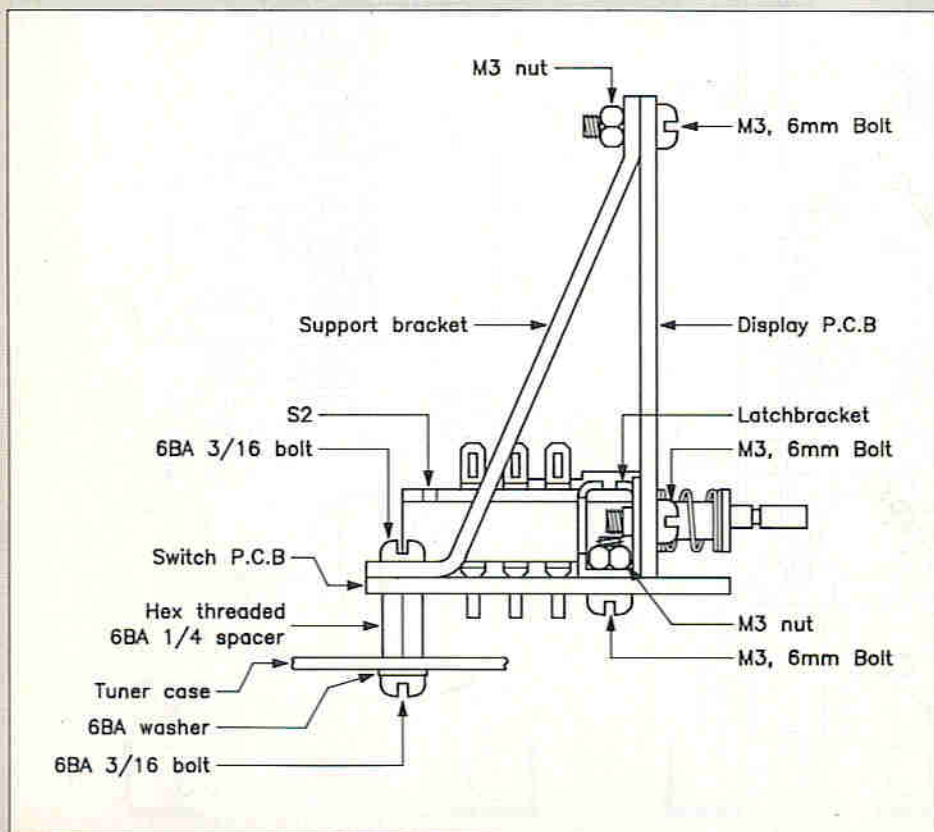
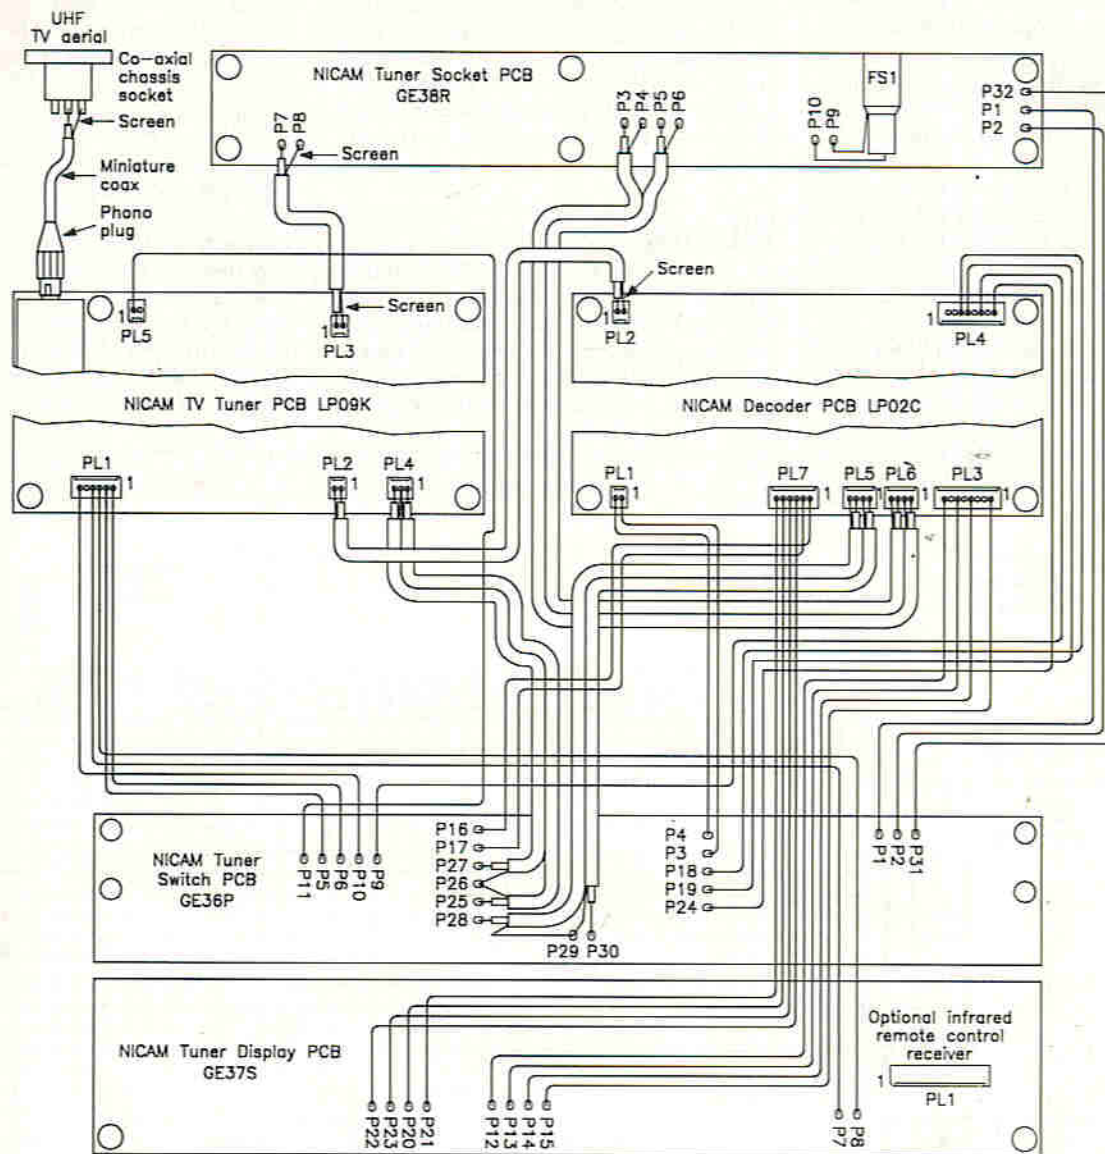
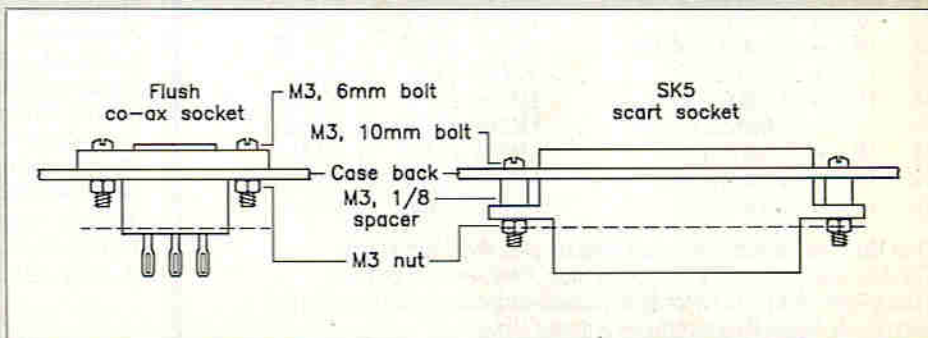

Figure 9. Fitting the Display PCB to the Switch PCB.
Figure 11. Wiring.
Figure 13. Fixing the Sockets to the Case.
- 4) Using a 6BA  $\frac{3}{16}$ inch bolt with a washer under its head, install the hexagonal PCB spacers, see Figure 9.
the hexagonal spacers. Secure the boards with the 6BA  $\frac{3}{16}$ inch bolts and washers. DO NOT use a washer on the display support bracket, see Figure 9. Referring to Figure 13, mount the TV aerial socket and connect up the coaxial lead coming from the tuner board, see Figure 11. The SCART socket SK5 is held in position using the M3 hardware as shown in Figure 13.
Next install the fuse holder on to the back panel and solder its terminals to the wires coming from P9 and P10 on the socket PCB, see Figure 11. DO NOT fit the 1A fuse until it is called for during the testing stage.